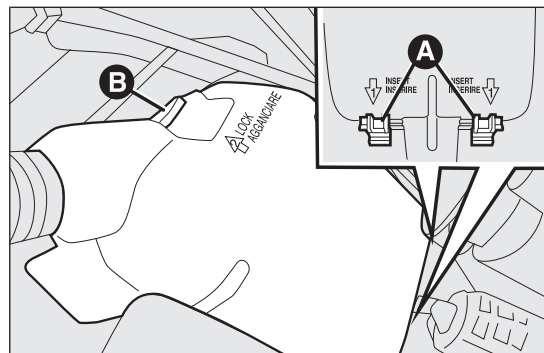

fig. 161
- ☐ insert the two tabs A fig. 161 in the respective seats located on the fuse box;